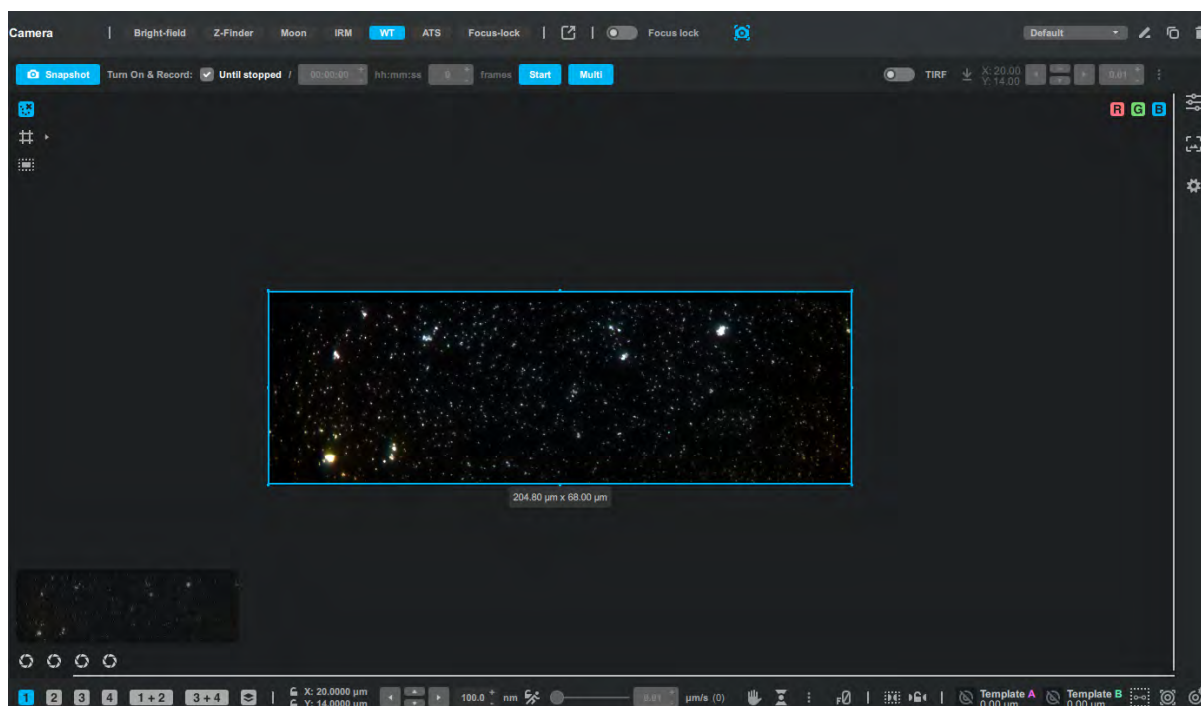

Figure 11.12.3: Figure: Widefield/TIRF camera image panel.
- Go to the camera window to access the Widefield/TIRF camera image labeled **WT** and configure the acquisition settings (see Figure 11.12.3). The main window contains several toolbars with different settings.